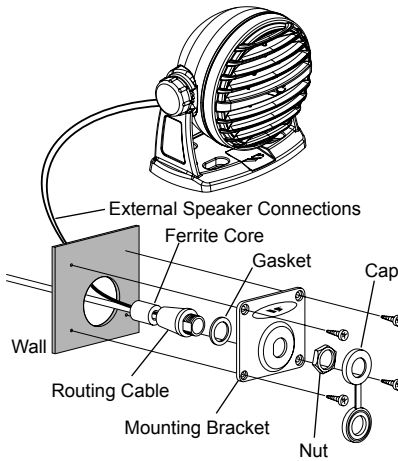

FIGURE 3
- 3. Referring to Figure 3, make a 1.2" (30 mm) hole in the wall then insert the Extension Cable into this hole. Connect the Gasket and Mount Base to the Extension Cable Connector using the Nut.